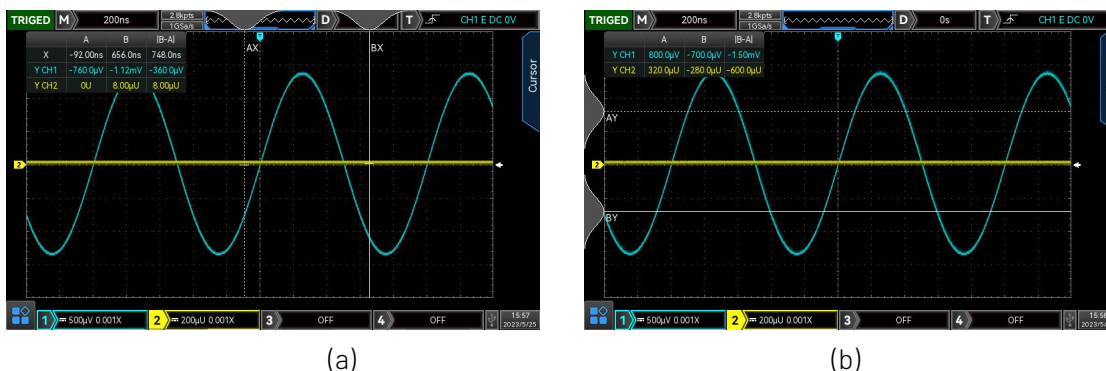

Figure 4-12
- Slide down in vertical to directly turn on time measurement cursor as shown in Figure 4-12 (a);
- Slide right in horizontal to directly turn on voltage measurement cursor as shown in Figure 4-12 (b);